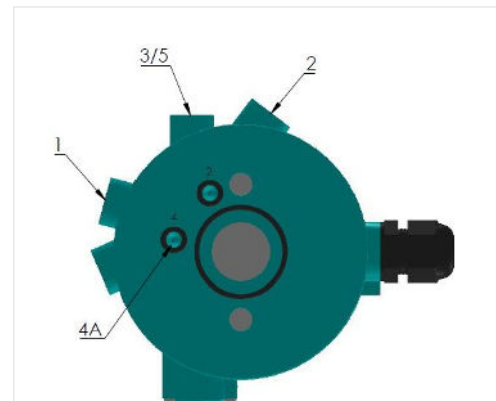

Figure 4.2.2.
The pneumatic connections for **turning actuators** – double-acting (DA) as shown in *Figure 4.2.2*.